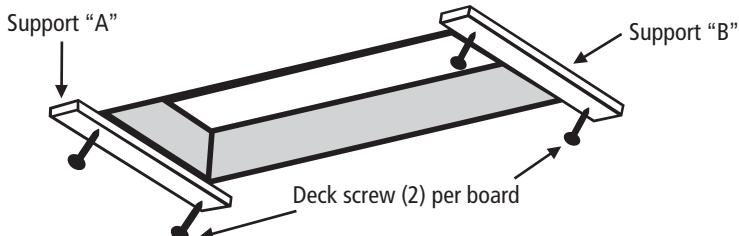

FIGURE 3: View from below
A. Attach temporary supports "A" and "B" with 2 1/2" deck screws as shown in Figure 3.